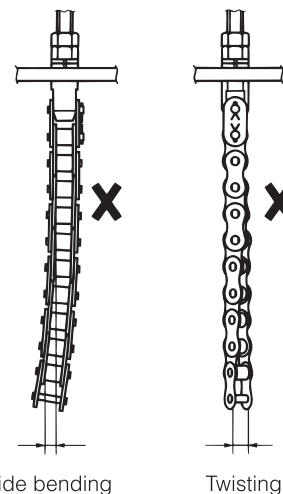

Fig. 29 Roller Chain Twisting
- 4) Inspection of twisting and side bending of the roller chain. If partial twisting or side bending of the chain occurs, the complete roller chain should be replaced. (Fig. 29)